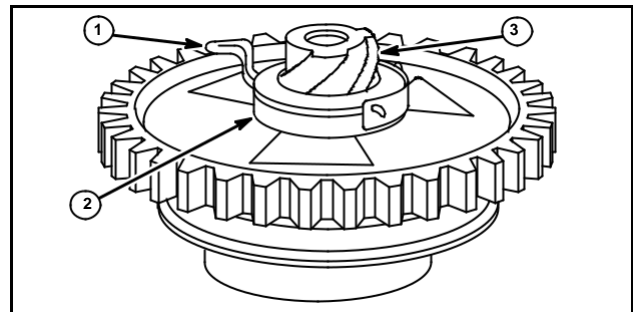

Fig. 27
4. Assemble pulley to gear with gear hub (2) and brake spring (1) toward end of helix (3), Fig. 27.